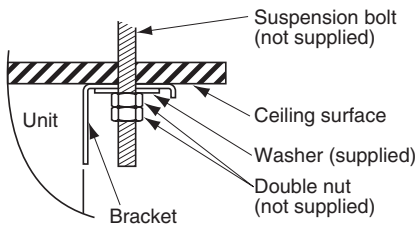

Fig. 1-194
- (6) Carry out the preparation for suspending the indoor unit. The suspension method varies depending on whether there is a suspended ceiling or not. (Figs. 1-194 and 1-195)
- (7) Suspend the indoor unit as follows:
- a) Install the bracket to the suspension bolt. Stick it onto the ceiling surface. (Fig. 1-194~1-196)